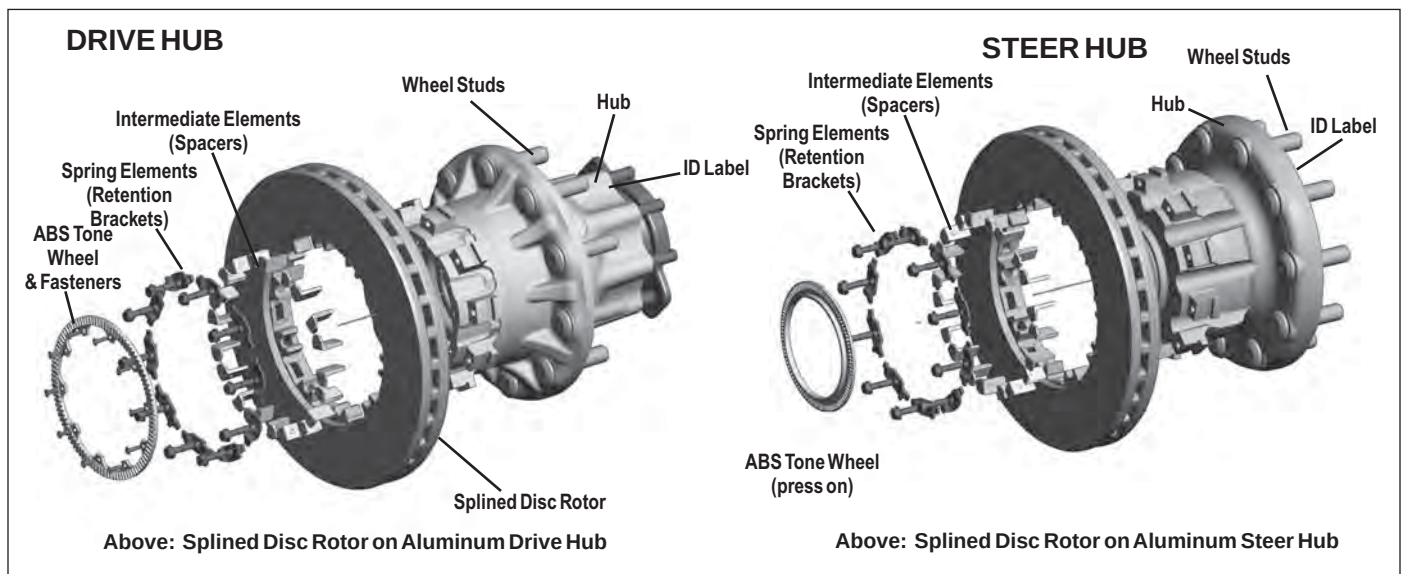

FIGURE 86 - SPLINED DISC ROTOR EXAMPLES - EXPLODED VIEWS
- 5.7.7 On drive axles, the ABS tone ring must also be removed. (See Figure 86.) Retain for re-installation.